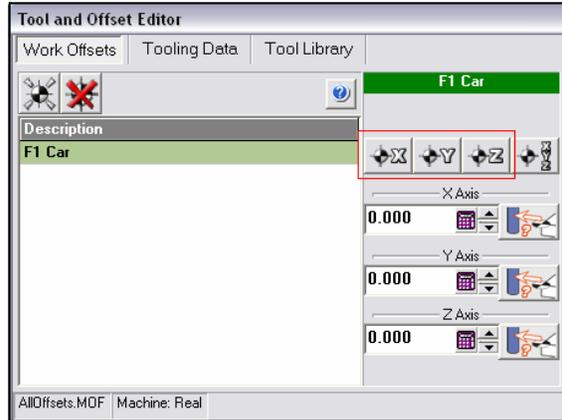

Figure 8 - Offset Window
- 1) In VR Milling V5, click on the Offset button at the bottom of the screen. A window similar to the one in Figure 8 should appear.